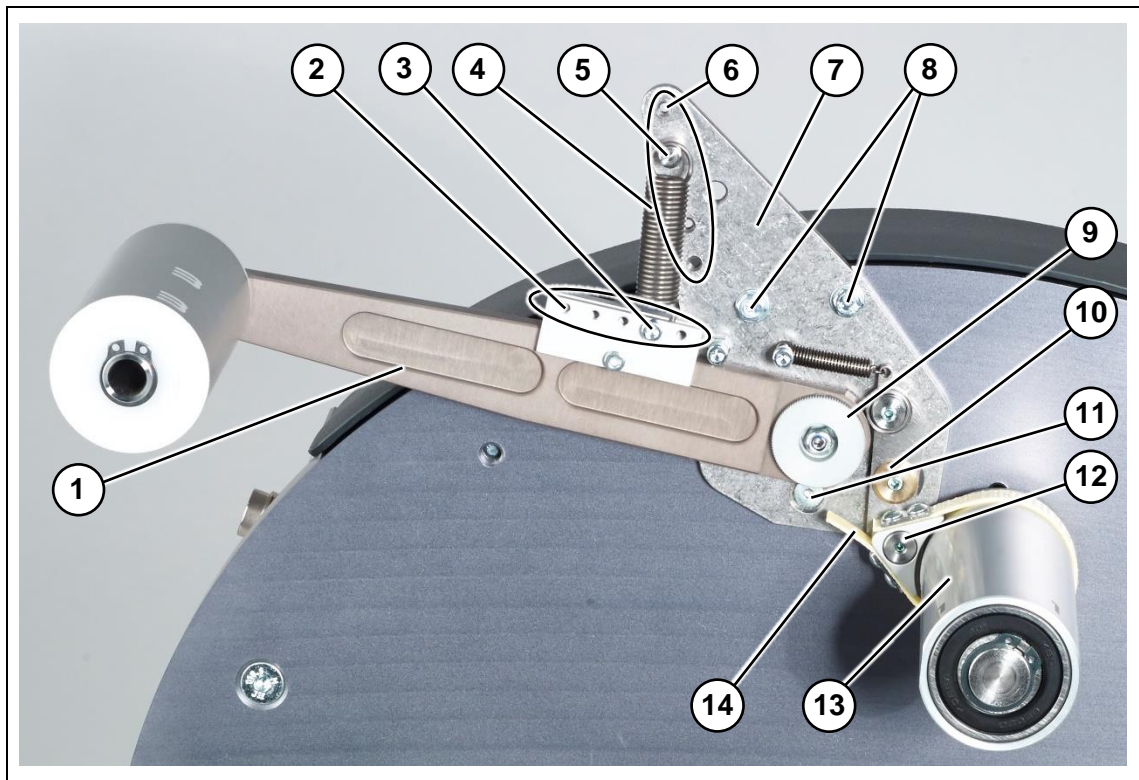

Figure 29 Overview pendulum arm suspension (example)
When the pendulum arm bracket (Figure 29, pos. 7) is turned, the eccentric rounding (Figure 29, pos. 9) at the rear of the pendulum arm will act on the lever (Figure 29, pos. 10). The lever actuates the belt block (Figure 29, pos. 12). This tensions or loosens the brake belt.
- 1 Loosen the two hexagon clamping screws (Figure 29, pos. 8).
- 2 The pendulum arm mounting (Figure 29, pos. 7) can now be swivelled around its rotation axis (Figure 29, pos. 11).
- 3 Swivel the tip of the suspension towards the label roll (Figure 29, pos. 13) to achieve a stronger braking effect.
- 4 Swivel the tip of the suspension away from the label roll (Figure 29, pos. 13) to achieve a weaker braking effect.
- 5 Then retighten the two hexagonal clamping screws (Figure 29, pos. 8).
The spring (Figure 29, pos. 4) on the pendulum arm has adjustable suspensions at both ends.
The spring suspension (Figure 29, pos. 5) is vertically adjustable via several tapped bores in the sheet metal of the pendulum arm mounting (Figure 29, pos. 7). Horizontal adjustment of the spring suspension (bottom Figure 29, pos. 3) is possible via several holes (Figure 29, pos. 2) on the plastic moulding.
- 1 Unhook the spring (Figure 29, pos. 4).
- 2 Move the screw on the plastic strip (Figure 29, pos. 3) or the screwed bolt of the spring suspension (Figure 29, pos. 5).
- 3 If the spring stroke is extended, the spring's tractive force (Figure 29, pos. 4) increases. The pendulum arm springs less. => The brake action is stronger.
- 5 Put the spring (Figure 29, pos. 4) back in place and test the brake action.